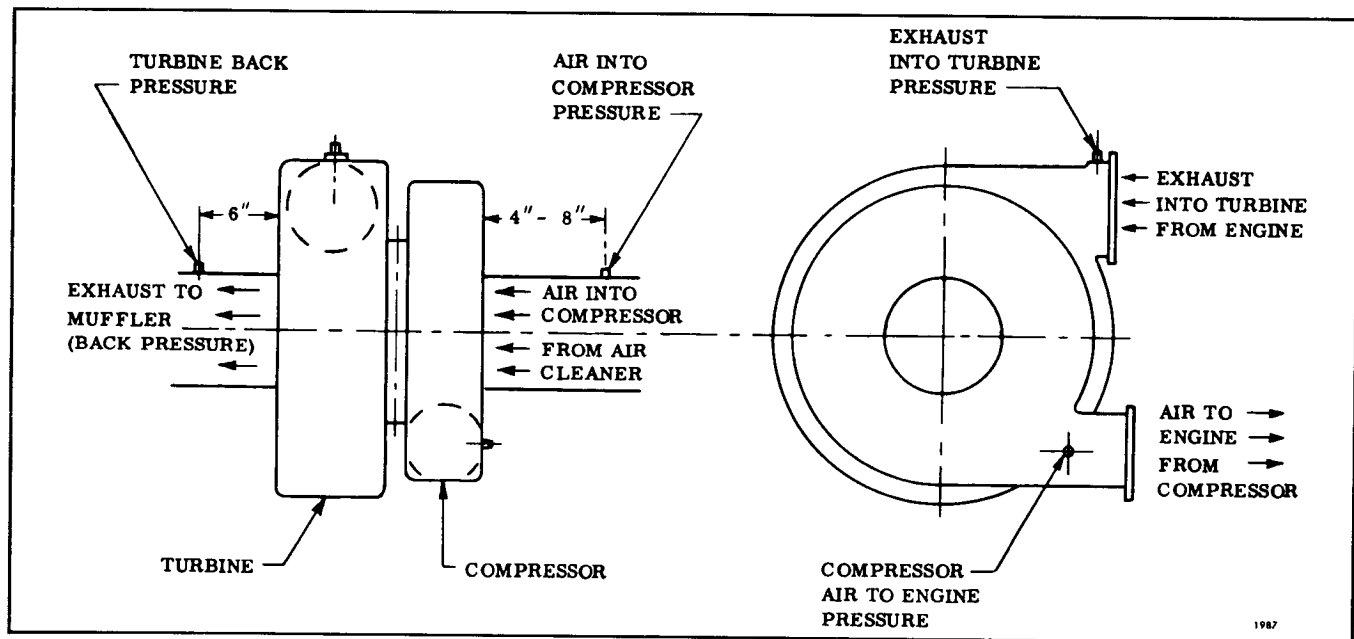

Fig. 1 - Points to Measure Intake and Exhaust Restriction
* Turbocharger pressures should be measured at location shown in Fig. 1.